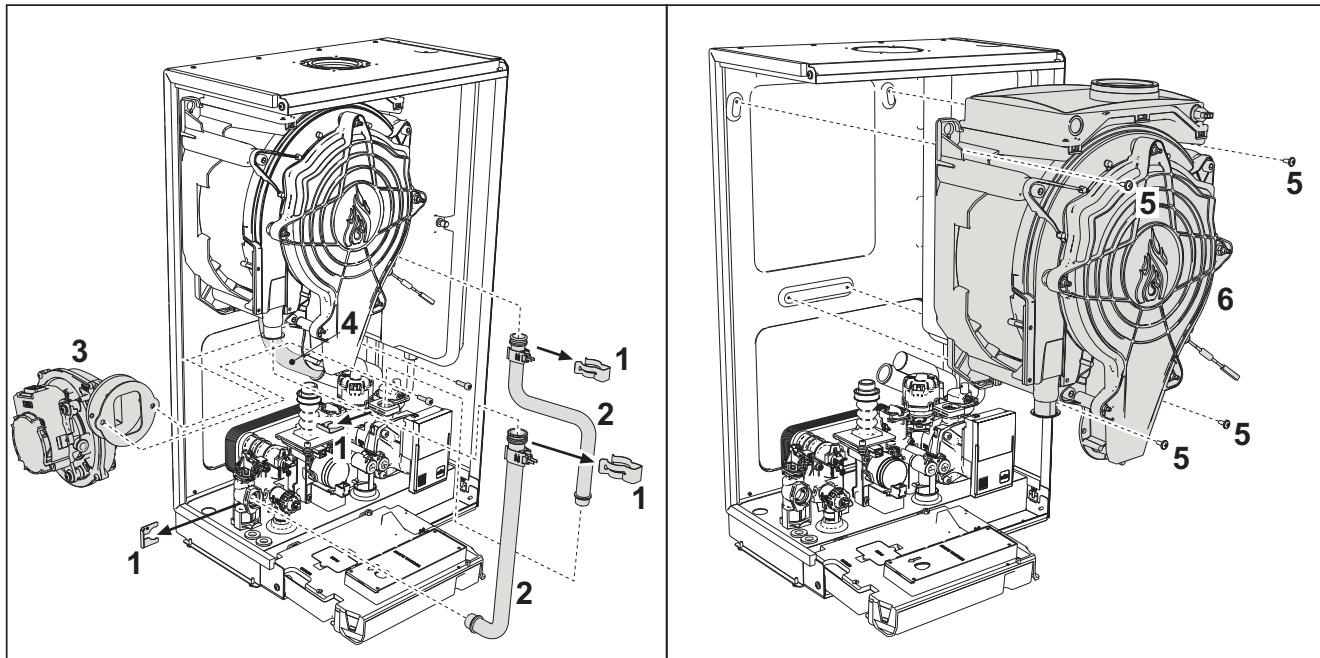

fig. 40- Main exchanger
- Remove the 2 top **screws “5”** securing the exchanger to the frame (fig. 40)
- Loosen the 2 bottom **screws “5”** securing the exchanger to the frame (fig. 40)